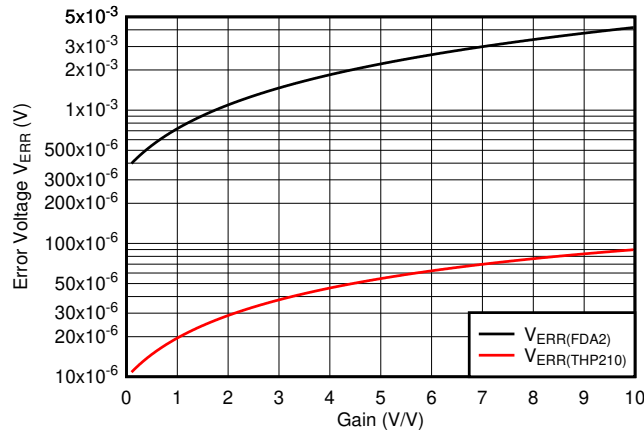
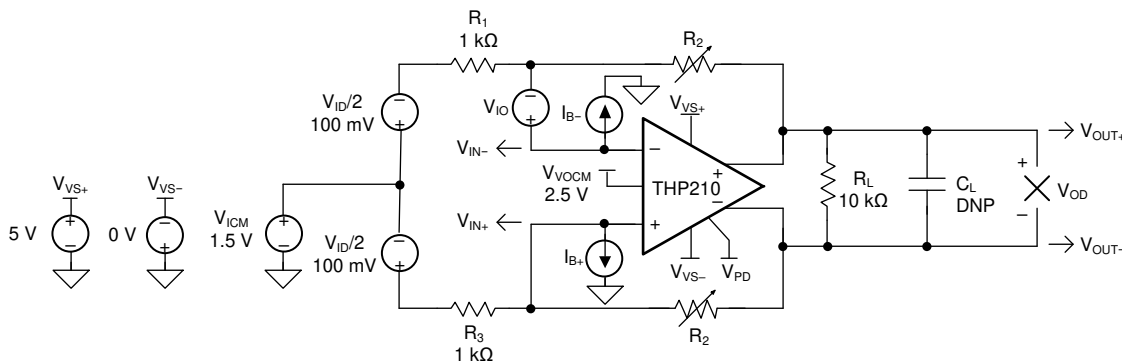

Figure 9-1. TINA-TI™ Software Simulation of DC Error Voltage at Different Gain Settings (Variable R₂)
Figure 9-2. FDA DC Error Model
The THP210 super-beta input device features extremely-low input bias current, trimmed low input offset voltage, and the lowest offset drift over the full temperature operating range. These features allow the device to produce a negligible initial error band at 25°C, but also exceptional robust behavior over temperature. The red curve in Figure 9-1 showcases a simulation of the total dc error voltage at 25°C versus different gain configurations based on the application configuration shown in Figure 9-2.
- Circuit configuration as shown in Figure 9-2